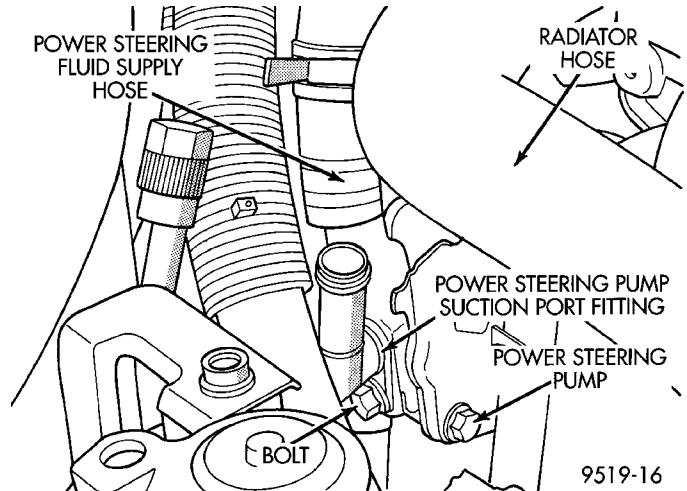

Fig. 6 Power Steering Pump Suction Port Fitting
- (1) Remove power steering fluid supply hose from power steering pump suction port fitting (Fig. 6).
- (2) Remove bolt (Fig. 6) attaching power steering pump suction port fitting to the power steering pump.
- (3) Remove the suction port fitting (Fig. 6) from the power steering pump.